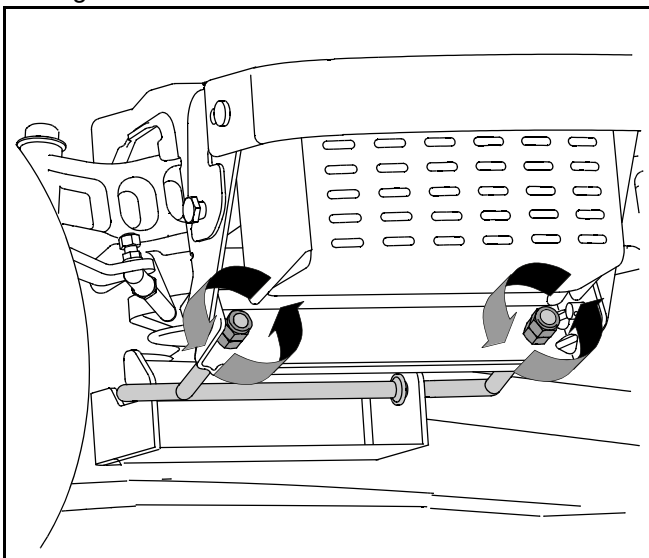

Figure 10
- From the front of the tractor, loosen the outermost hex lock nut on the end of the deck hanger rod. See Figure 10.
- Tighten the inner hex nut front against the front hanger bracket to raise the front of the deck; loosen the hex nut to lower the front of the deck. See Figure 10.